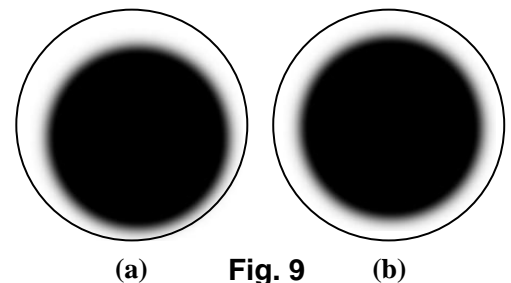

Fig. 9
- Turn the condenser focus knob to lower the condenser till a dark spot showed in the viewing field as shown in **Fig. 9 (a)**.
- Turn the condenser translational centering screws to move the dark spot to the center as shown in **Fig. 9 (b)**.